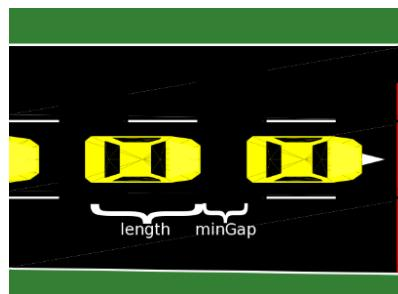

Figure 33: Length and minGap for a vehicle
1. **Vehicle type** that describes the vehicles physical properties such as length, color¹, maximum speed and minimum gap as well as car-following model and lane-changing model parameters. In the above example, two vehicle types called ‘passenger’ and ‘bus’ are defined. The length attribute describes the length of the vehicle itself and the minGap attribute describes the offset to the leading vehicle when standing in a jam as shown in Figure 33. Within the simulation, each vehicle needs ‘length’ + ‘minGap’ (when ignoring the safe gap), but only ‘length’ of the road should be marked as being occupied.